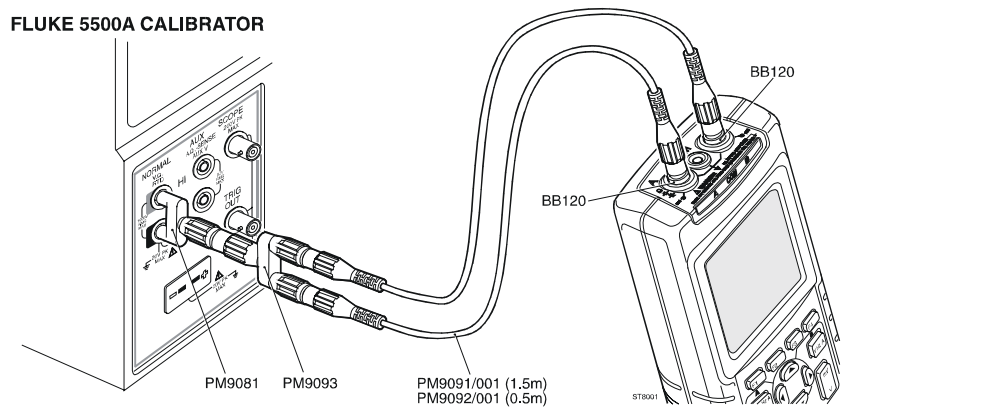

Figure 4-5. Test Tool Input 1-2 to 5500A Normal Output
1. Connect the test tool to the 5500A in Figure 4-5.
1. Connect the test tool to the 5500A as for the previous test (see Figure 4-5).